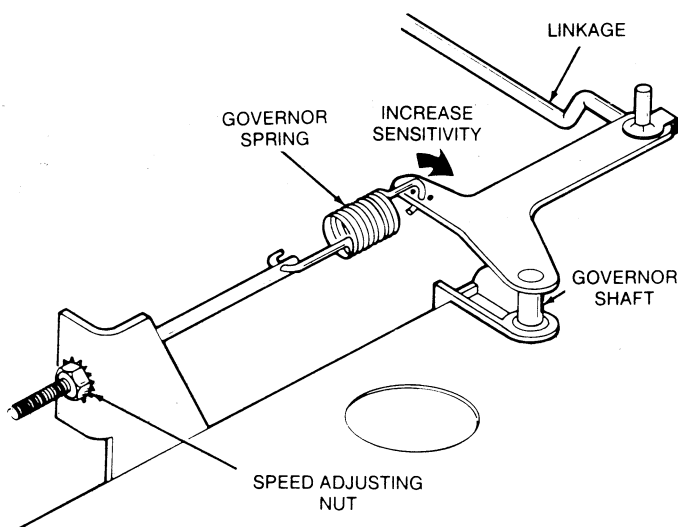

FIGURE 13. GOVERNOR ADJUSTMENTS
3. With the warmed-up unit operating at NO LOAD, adjust the tension of the governor spring (see Figure 13). Turn the speed adjusting nut to obtain a voltage of 130 volts (for 120 volt operation) or 260 volts (for 240 volt operation).
4. Check the voltage with no load connected and again with a full load and note the voltage difference. Adjust the governor sensitivity to give the closest regulation (least voltage difference between no load and full load) without causing a hunting condition. Moving the governor spring closer to the governor shaft increases sensitivity. See Figure 13.